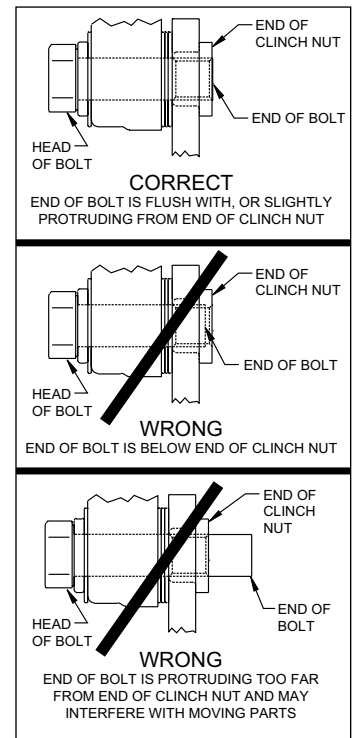

Figure 3. Clinch Nut Engagement Diagram
CAUTION: All mounting bolts must fully engage clinch nuts. Be sure to check that all bolts are either flush or protruding through flanged side of clinch nut after shimming, Figure 3.
the mounting bolts and view the rotor (6) through the top opening of the caliper. The rotor should be centered in the caliper, Photo 5. If not, adjust by adding or subtracting shims (14) between the bracket and the caliper. Always use the same amount of shims on each of the two mounting bolts. **NOTE:** The end of each bolt must be flush with or slightly protruding from the head of the clinch nut, as shown in Figure 3. If necessary place spare shims between washer (13) and caliper mounting ear to achieve the